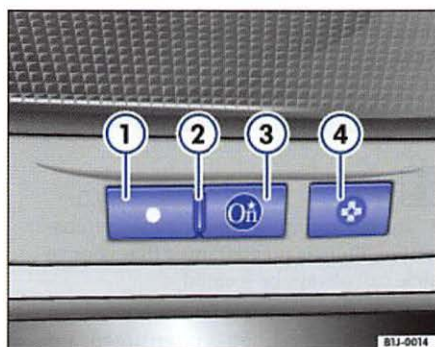

Fig. 3 OnStar services button (blue OnStar button)
⇒ fig. 3 ③, and you are connected to an OnStar Advisor.